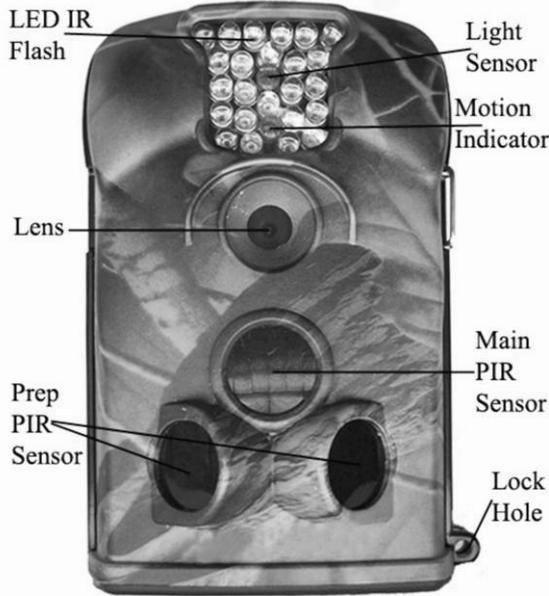

Figure 1.1: Front View
- Figure 1.1 shows the front view of the camera